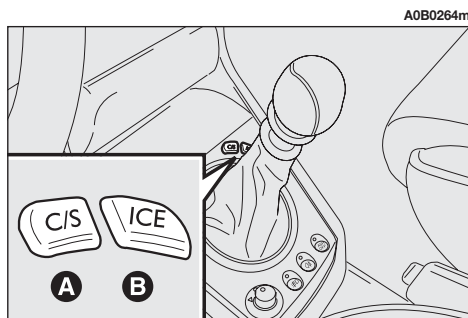

fig. 139
The three driving modes **CITY**, **SPORT** and **ICE** are selected by 2 buttons on the centre console (**fig. 139**).
The **(C/S)** button (**A-fig. 139**) selects the **CITY** or **SPORT** functions, the **(ICE)** button (**B-fig. 139**) selects the **ICE** mode.
**CITY** (**(C/S)** button (**A-fig. 139**) pressed):
**SPORT** (button **(C/S)** (**A-fig. 139**) pressed):